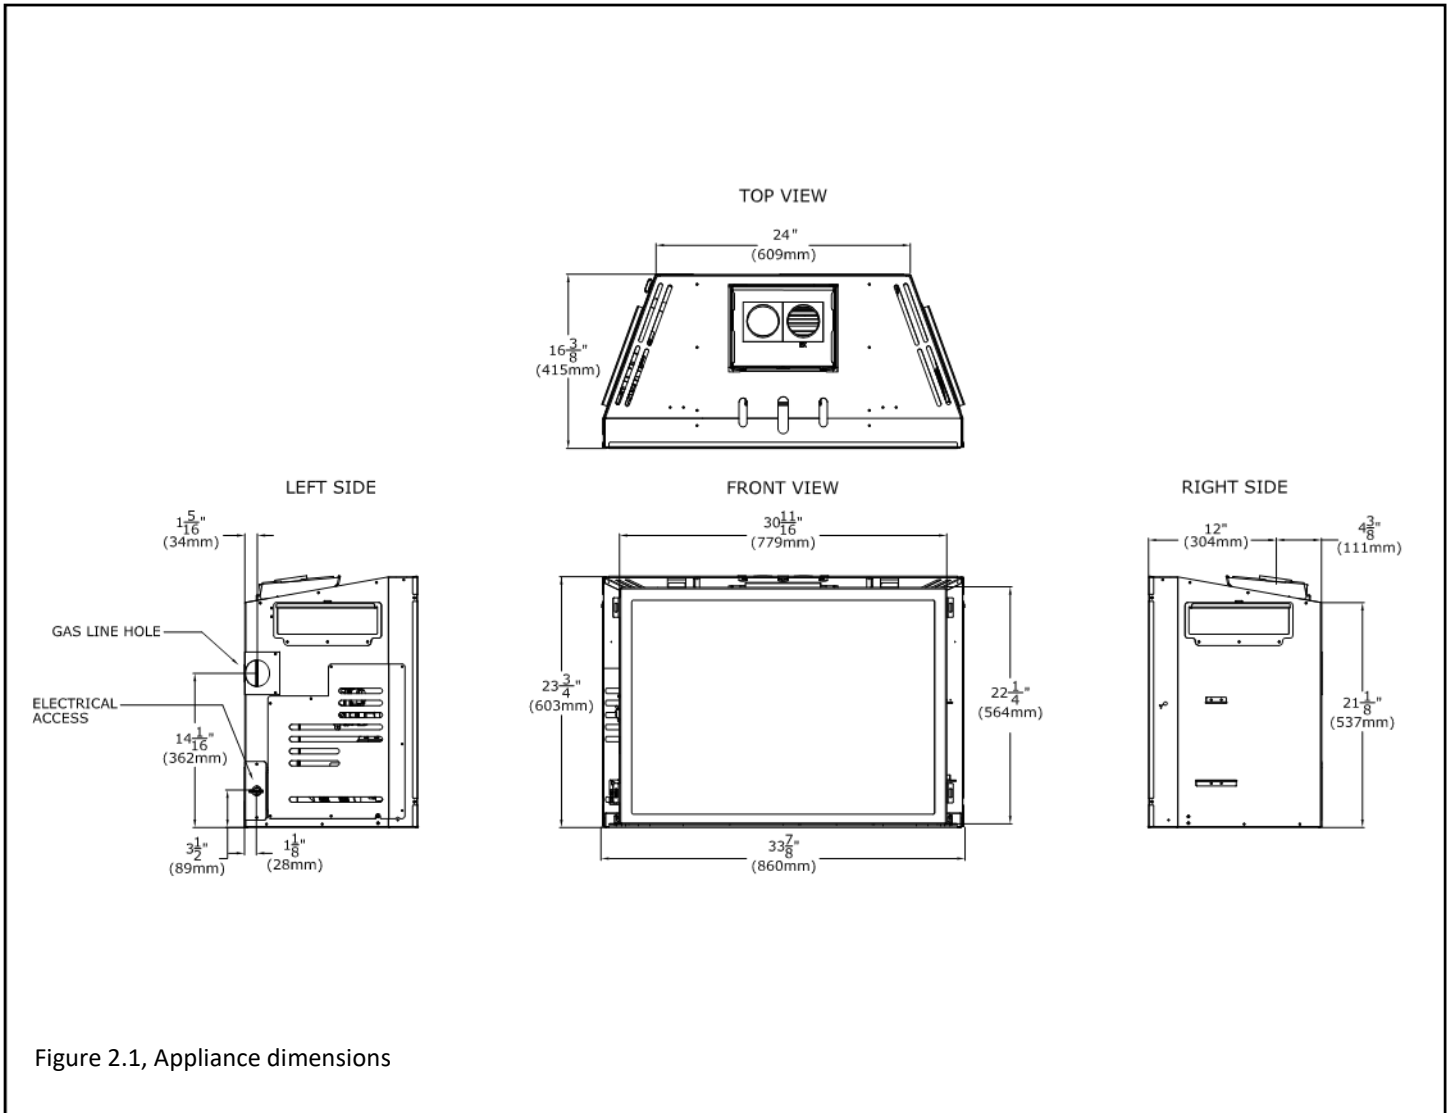

Figure 2.1, Appliance dimensions
- A gas line must be able to be installed to the fireplace insert. Please refer to Figure 2.1 on page 9. The gas line access hole is located on the left side of the insert.
- See Figure 2.1 on page 9 for electrical outlet box location to run any necessary electrical wiring to the gas fireplace insert.